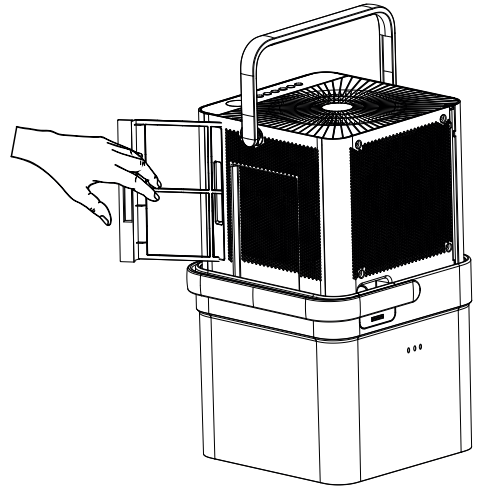

Fig. 19
- To remove the filter, pull each filter outwards (See Fig. 19).